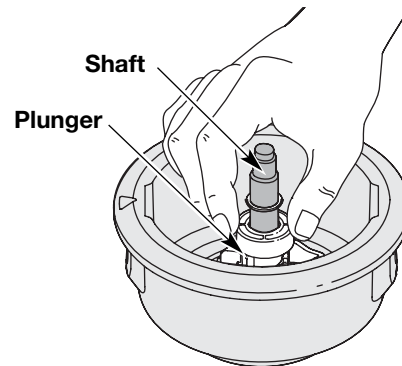

Fig. 25
4. Clean the shaft and the inner surface of the outer spool. To clean the shaft underneath the plunger, press down on the plunger (Fig. 25). Remove any dirt or debris from the shaft.